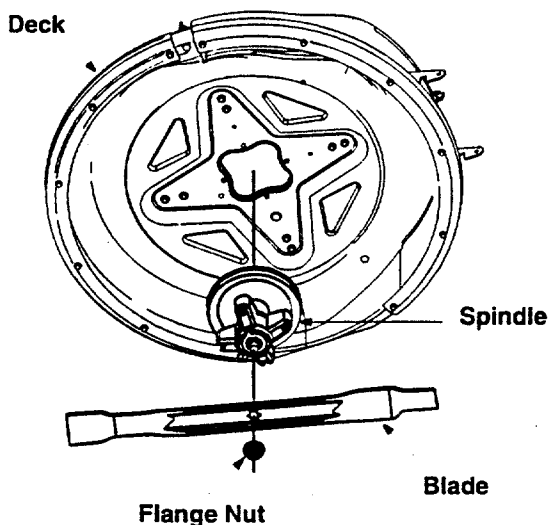

Figure 26
- Remove blade from the spindle. See Figure 26.